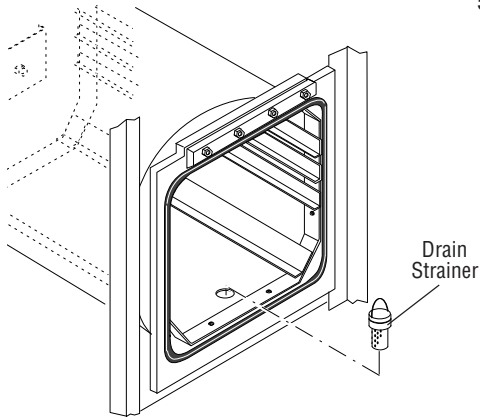

Figure 6-1. Check Chamber Drain Strainer
1. Open chamber door and check drain strainer is clean and in place (see Figure 6-1).